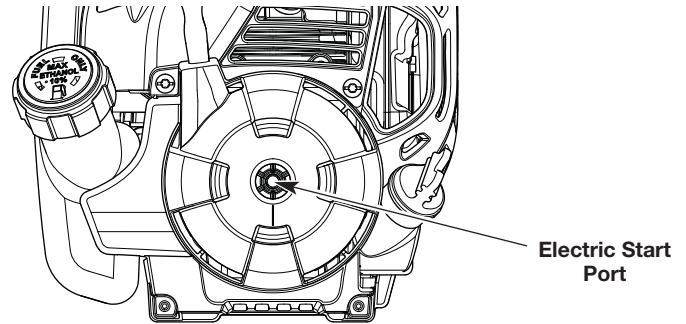

Fig. 11
5. Insert the electric start accessory into the electric start port (Fig. 11). Refer to the *Operation* section of the electric start accessory operator's manual.